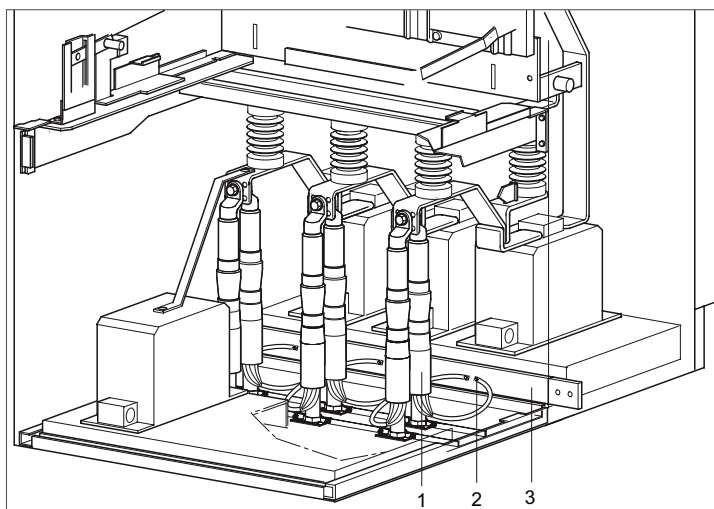
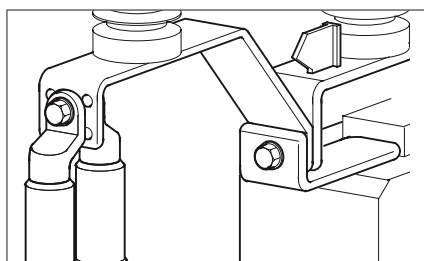
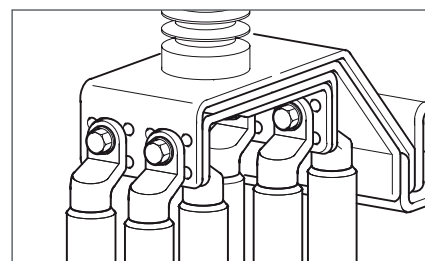

Figure 62
Figure 63
Figure 64
- Fasten the individual cables to the appropriate connection surfaces (Figure 62 to Figure 64). In case of two cables per phase: Connect the two cables to the first connection (Figure 63).